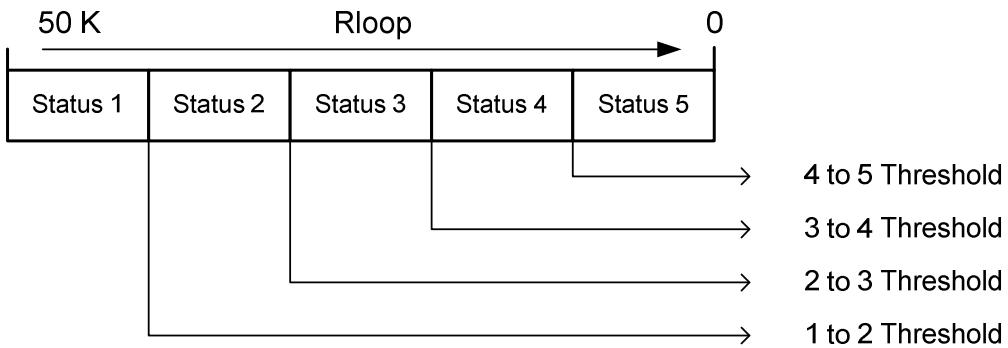

Figure 1 States and State-to-State Transition Thresholds for a Programmable Auxiliary Alarm Loop
5.4.2 Programmable Auxiliary alarm loops of the Type 12 each have five various states defined by threshold values of alarm loop resistance. Figure 1 shows the conditional distribution of available states and positions of threshold values between states.